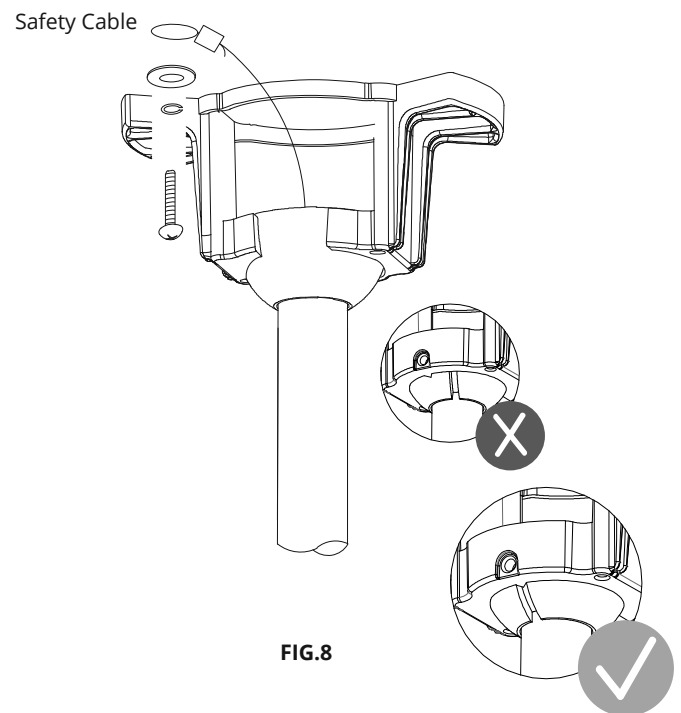

FIG.8
2. Secure the safety cable to the building structure using spring washer, flat washer, and wood screw provided (**FIG.8**).